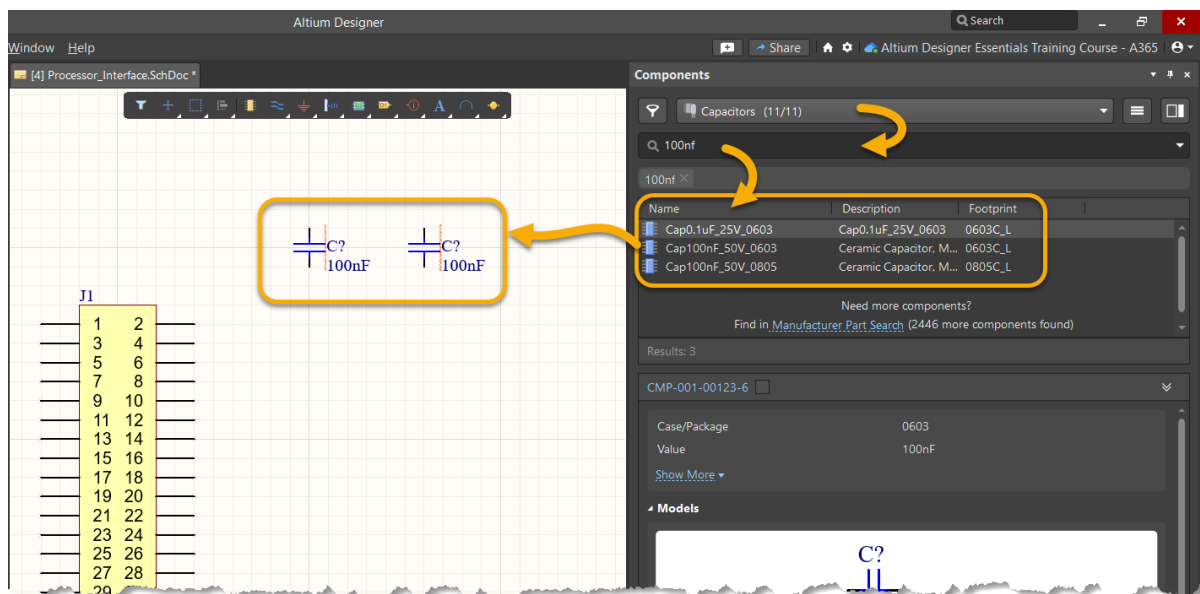

Figure 11. Placing two CAPS with 100nF 50V 0603
21. Going back to the Components panel, from the drop-down list, select the Category *Capacitors*, use the library search (100nF), or simply navigate down the list of components, and place two Cap100nF_50V_0603 capacitors, into the Processor_Interface.SchDoc. Making the *Components* panel larger may help you see the full name of the component you wish to select and place, Figure 11.